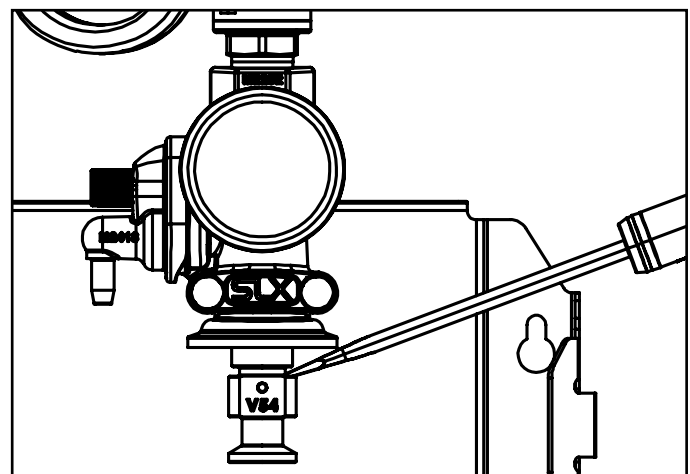

Fig. 8.2: Venturi insert removal using screwdriver
- A screwdriver can be used to pry the insert out if necessary [Fig. 8.2]